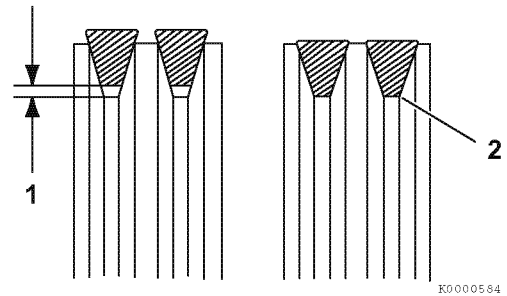

Figure 3
- Tighten the V-belt to the proper tension. There must be clearance (1, **Figure 3**) between the V-belt and the bottom of the pulley groove. If there is no clearance (2, **Figure 3**) between the V-belt and the bottom of the pulley groove, replace the V-belt.